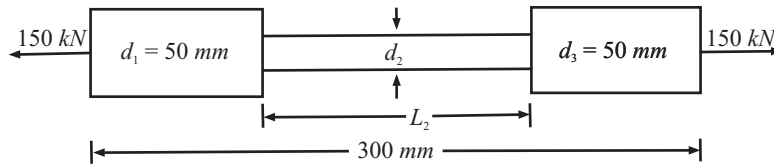

Fig 14.22
Q. 38: The bar shown in Fig. 14.22 is subjected to an axial pull of 150kN. Determine diameter of the middle portion if stress there is limited to 125N/mm². Proceed to determine the length of this middle portion if total extension of the bar is specified as 0.15 mm. Take modulus of elasticity of bar material $E = 2 \times 10^5 \text{ N/mm}^2$.